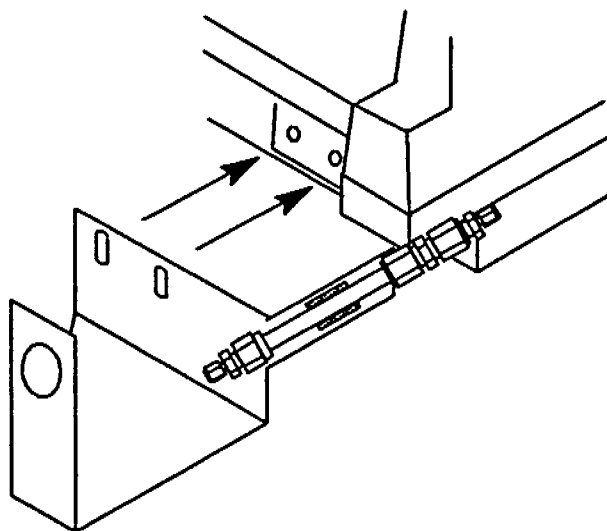

Fig. 1.8 Attaching Bracket
- b.. Attach the bracket to the front bezel of your pump using the supplied phillips-head screws and split-lock washers (Fig. 1.8).